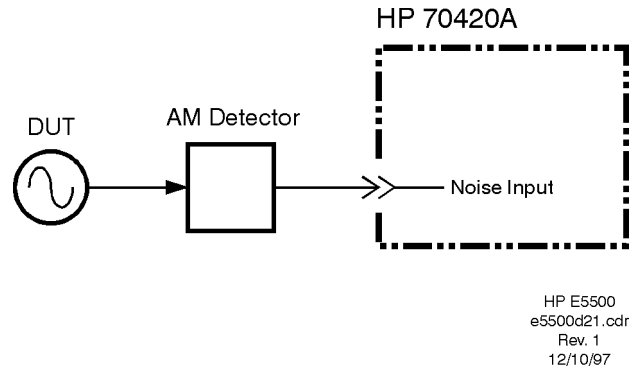

Figure 12-14 Double-sided Spur AM Noise Measurement Setup Method 1, Example 2
- 1 Connect circuit as shown in Figure 12-14, and tighten all connections. If the Agilent 70420A Option 001 or Agilent 70427A is available, use one of the connection diagrams described in “AM Noise Measurement Block Diagrams” on page 12-3.